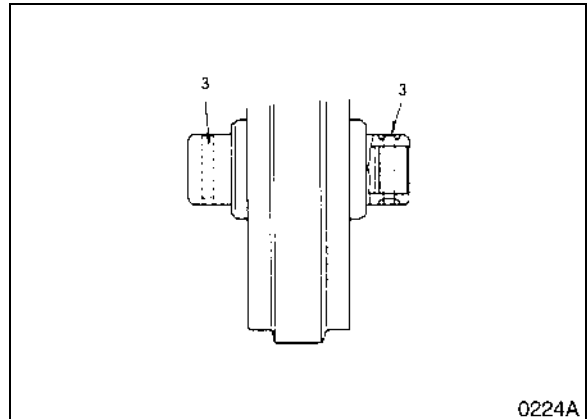

Figure 21
2. Separate the pin (3, Figure 21) from the bearing (1).